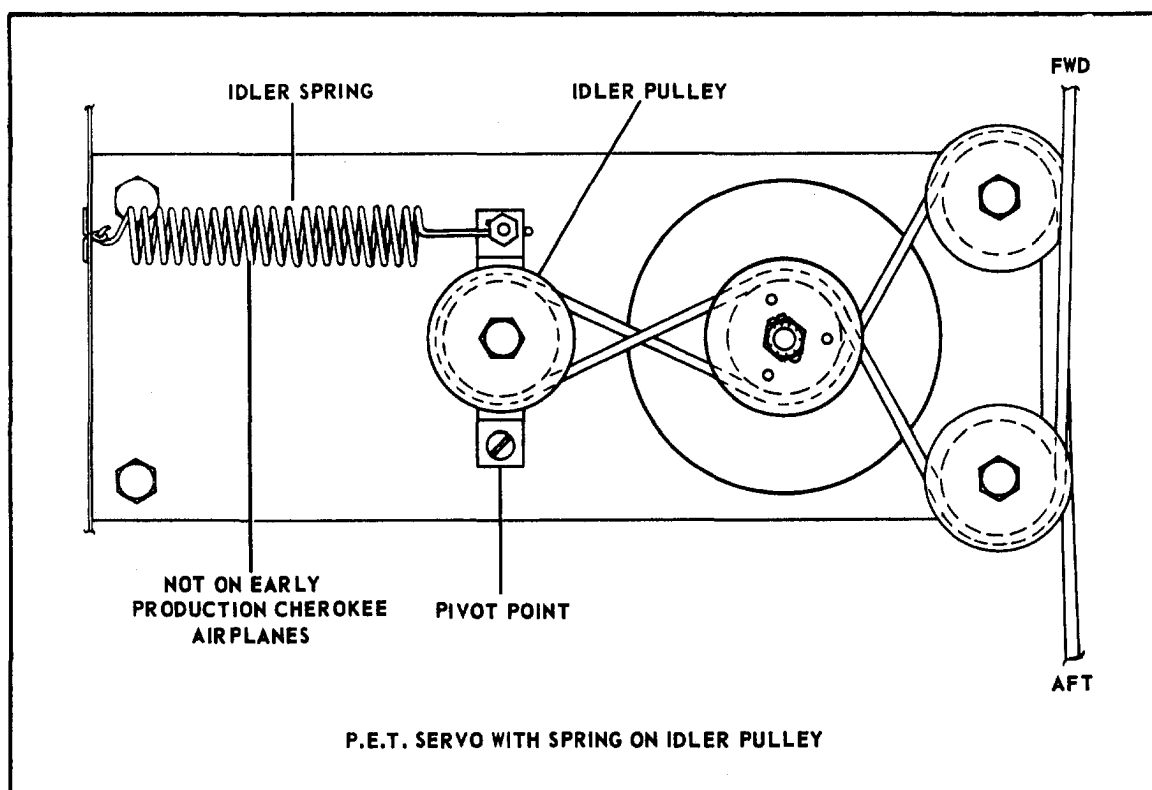

Figure 3-7. PA-28, PA-32 and PA-44-180/-180T Trim Servo Cable Routing
- d. On PA-28-151 with serial numbers 28-7415001 and up; PA-28-161 with serial numbers 28-7716001 and up; PA-28-180 with serial numbers 28-4378 and up; PA-28-181 with serial numbers 28-7690001 and up; PA-28R-180 with serial numbers 28R-30005 and up; PA-28R-200 with serial numbers 28R-35001 and up; PA-28R-201 with serial numbers 28R-7737001 and up; PA-28R-201T with serial numbers 28R-7703001 and up; PA-28-235 with serial numbers 28-10720 and up, (refer to Figure 3-7), route the trim cable from the forward section of the airplane around the aft idler pulley; then around the top capstan groove and around the aft side of the idler pulley located approximately in the center of the servo. Form a figure eight by continuing the cable around the bottom capstan groove; then around the forward idler pulley and route trim cable toward the aft section of airplane.
3-21. INSTALLATION OF TRIM SERVO. (PA-32 and PA-44-180/-180T) (Refer to Figure 3-7.)